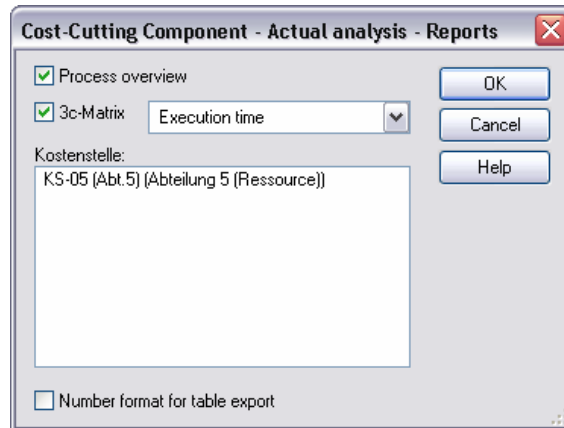

Figure 441: Process cost analysis - Report selection
When the calculations are done, the "Cost-Cutting Component - Actual analysis -Reports" (see fig. 441) (or "Cost-Cutting Component - Plan analysis - Reports") results window is displayed.
**Hint:** It is recommended not to open all available reports at once because too many windows could make your desktop unclear. The "Cost-Cutting Component - Actual analysis - Reports" (see fig. 441) (or "Cost-Cutting Component - Plan analysis - Reports") window remains open until the end of the process cost analysis, which means you always have the possibility to open additional windows or reopen the ones you closed.
Close ADONIS 3c, by clicking the "Close" button in the "Cost-Cutting Component - Actual analysis - Reports" (see fig. 441) (or "Cost-Cutting Component - Plan analysis - Reports") window.